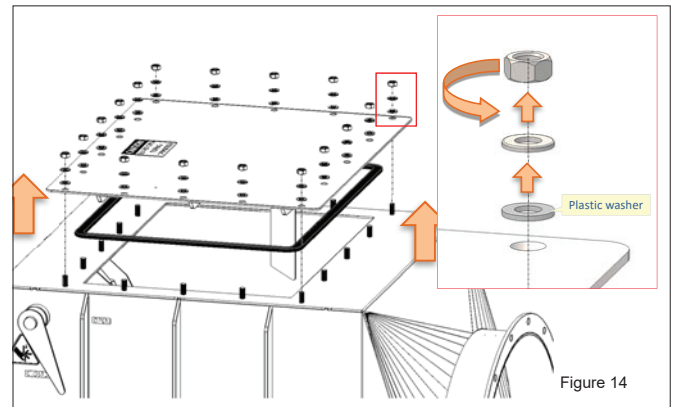

Figure 14
Step 1: Open the inspection panel as shown in Figure 14.